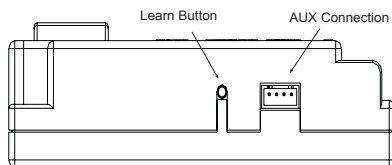

Figure 38 - Gas Module Left Side
1. There is a switch located on the right side of the module that reads REMOTE/OFF (Figure 38, page 27).
- To program the module (make sure the system has power), locate the learn button (Figure 38) on the module. Press and release the learn button. There will be a beep sound from the module. Then press any button on the remote transmitter. Once the module's internal receiver accepts the transmitter code, there will be a series of confirming beeps.
Figure 38 shows a typical flame pattern.